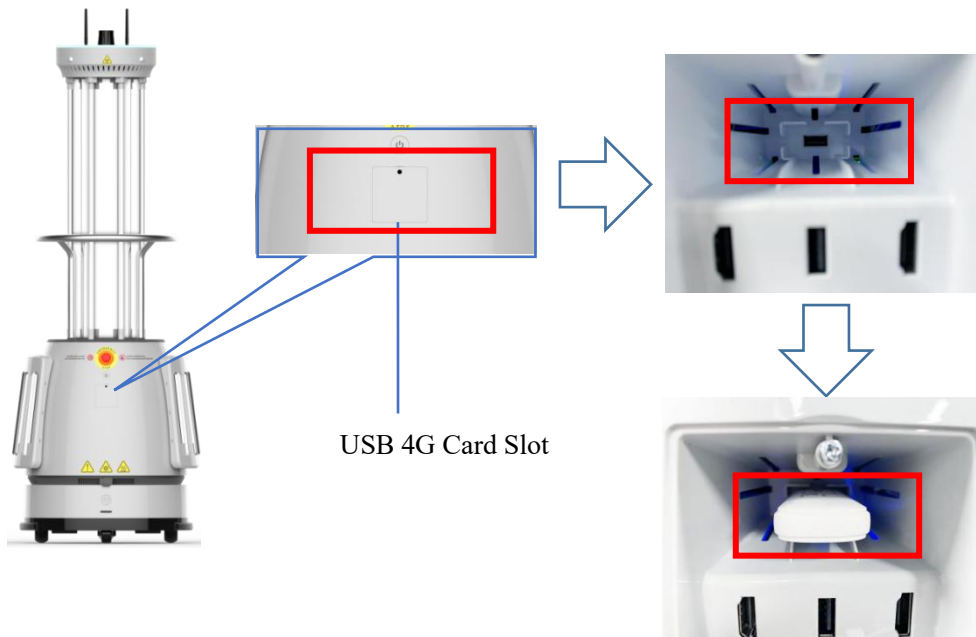

Figure 4.2.1d
- Use a screwdriver to unscrew the back cover of the robot debug interface, open the back cover, and insert the 4G network card into the robot, as shown in Figure 4.2.1d.